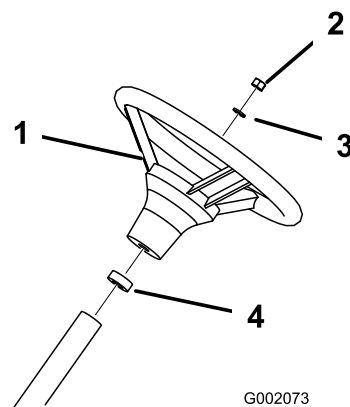

Figure 4
3. Secure the steering wheel to the shaft with the nut (Figure 4). Torque the nut to 18-22 ft-lb (24-29 N-m)